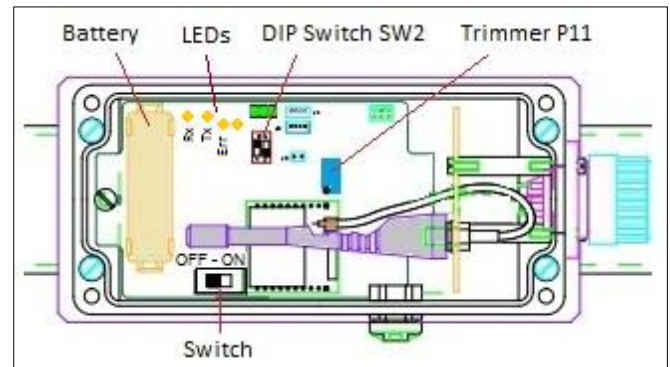

Fig. 5 – Sensor case, inside view.
Turn on the sensor before insertion. The switch is positioned inside the case (Fig. 5).
In addition to replacing the battery inside the case (Fig. 5) when indicated charge level is near to zero, the sensor requires regular maintenance procedure and adjustment.
- 3) Verify that the O₂ value is 20.9 %. If different, rotate the P11 trimmer on the board (Fig. 5) until the datalogger display shows the value 20.9%. Turn clockwise to reduce the value and anticlockwise to increase it. If is not possible to reach the value 20.9 % it is necessary to replace the cell because of exhaustion (§ 4.3).
On the electronic board inside the box, there are light indicators (LED) having this meaning (refer to Fig. 5):